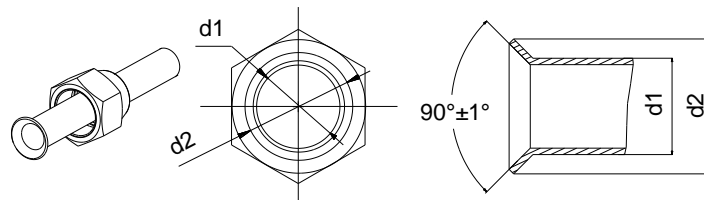

Figure 3-3-1
- (1) Cut the connection pipe with the pipe cutter and remove the burrs.
- (2) Hold the pipe downward to prevent cuttings from entering the pipe.
- (3) Remove the flare nuts at the stop valve of the outdoor unit and inside the accessory bag of the indoor unit, then insert them to the connection pipe, after that, flare the connection pipe with a flaring tool.
- (4) Check if the flare part is spread evenly and there are no cracks (see Figure 3-3-1).